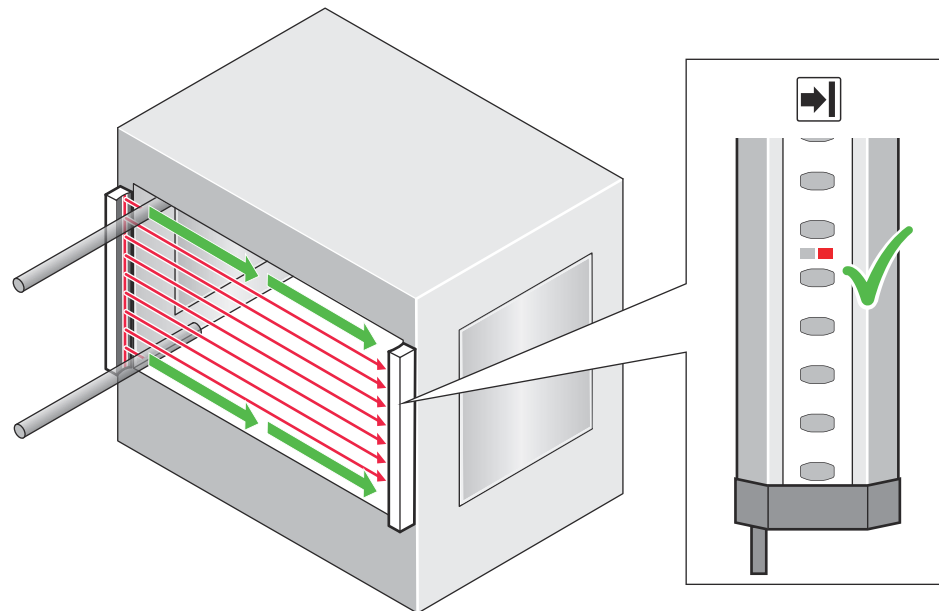

Figure 18: Test rod check: Step 3
3. Then, guide the test rod along the edges of the area to be protected, as indicated by the arrow, see figure 18.